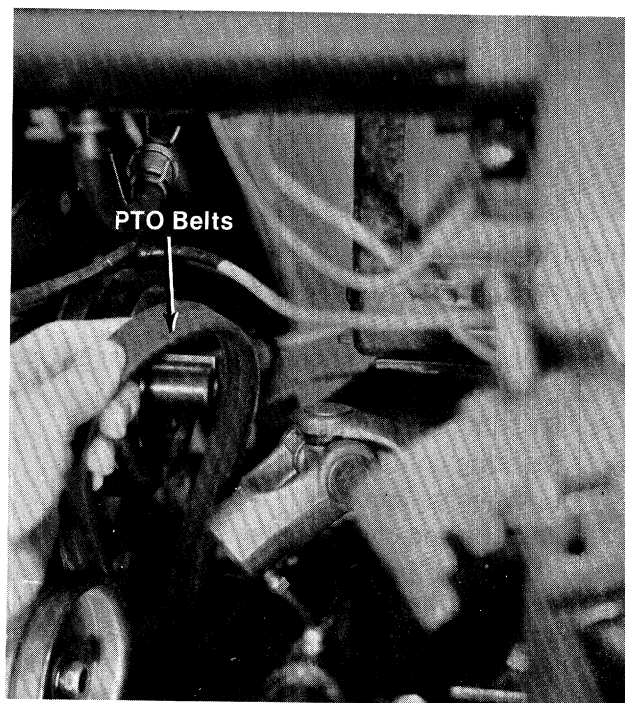

FIGURE 25.
6. Remove the PTO belts. (See figure 25.)